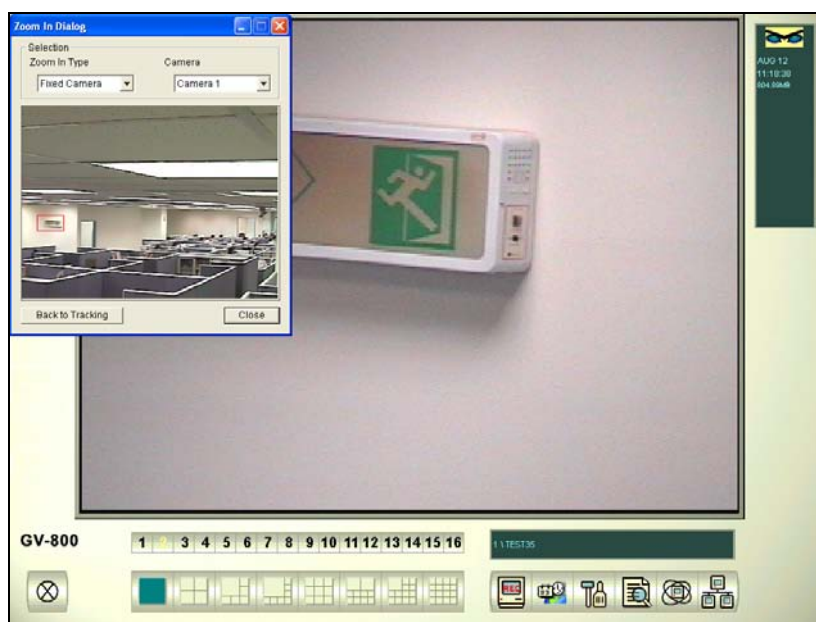

Figure 1-68 The outlined area in the Dialog window is magnified in the main screen
1. Click the **Configure** button, point to **Object Tracking Application**, and click **Object Tracking View** to open the Zoom in Dialog window, overlapping in the main screen (see Figure 1-68).